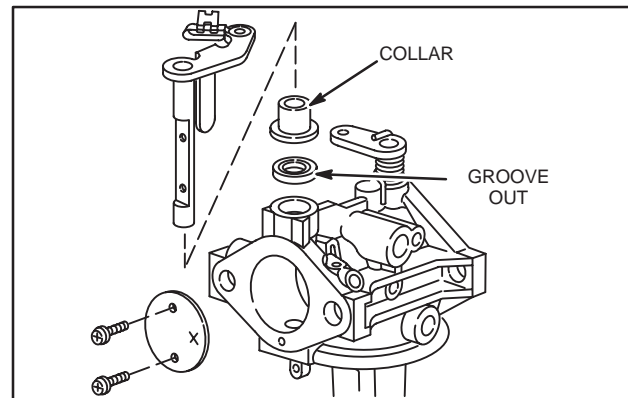

Fig. 15 – Installing Throttle Shaft
1. Install throttle shaft, Fig. 15.